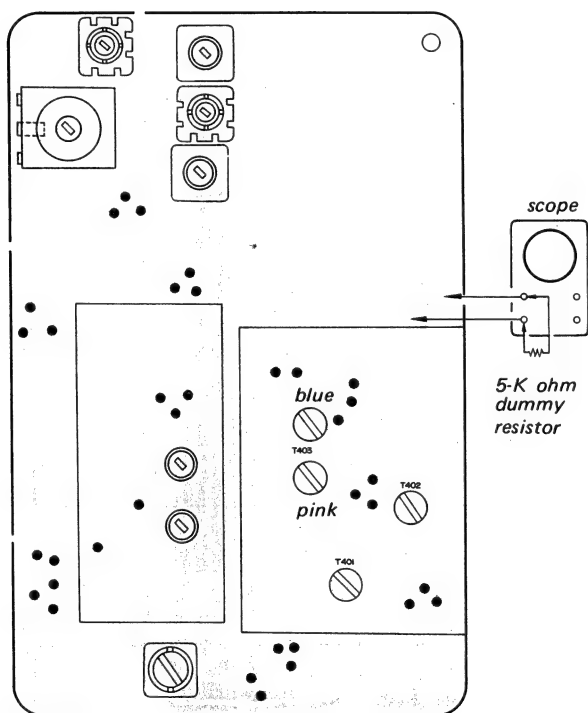

Fig. 3-8
11. Connect a dummy resistor (5-k ohm) across the input terminals of scope as shown in Fig. 3-8.
12. Connect a scope to the SIF output terminals (C420) as shown in Fig. 3-8, then make the adjustments specified in the following TABLE 3-3.